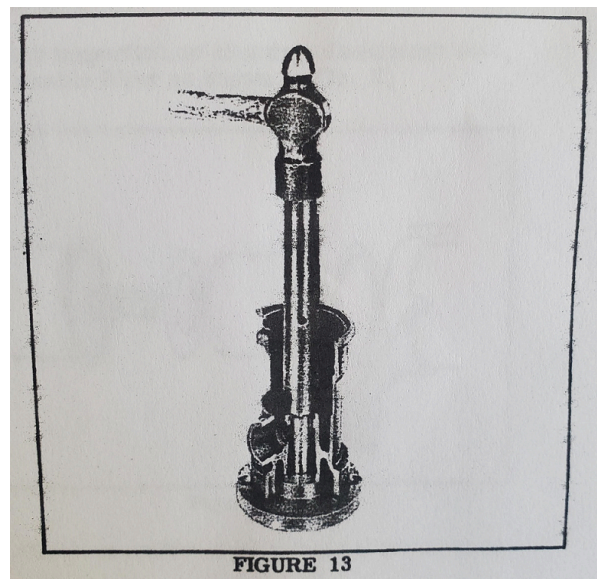

FIGURE 13
**IMPORTANT:** To properly rebuild the pump and ensure against leakage, the piston tube must be re-staked. Use Tool No. T-308430 (Figure 13). The re-staking tool consists of two parts; base and piston tube guild and a staking punch. To use this tool, place the pump casting over the base. The piston tube guide will automatically center both the casting and the piston tube. Place the restaking punch over the piston tube. Using a 1-1/2 pound hammer, strike the punch sharply one or two blows.